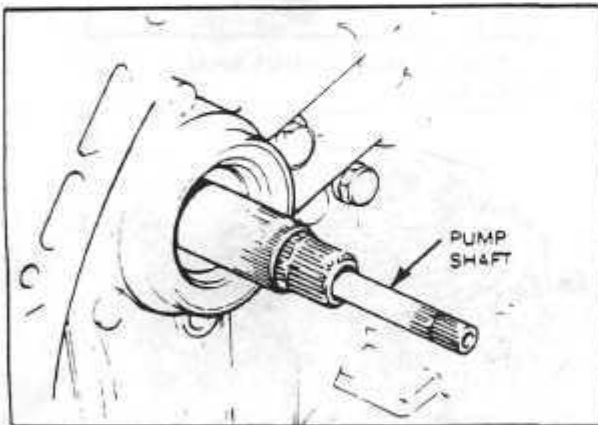

Fig. 29 FLUID PUMP SHAFT
2. Remove the two (2) bolts securing the dipstick tube.
3. Remove the torque converter and fluid pump shaft. Fig. 29